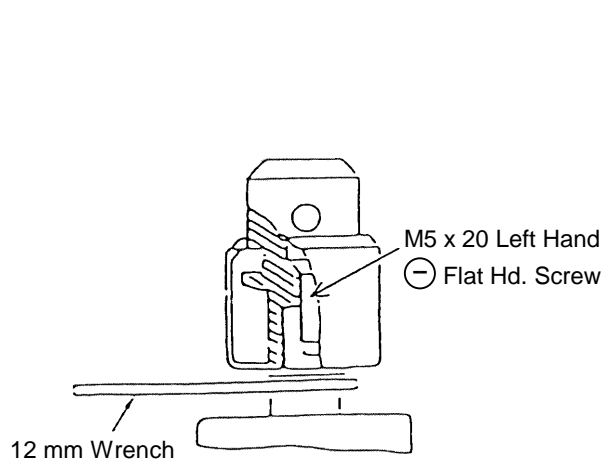
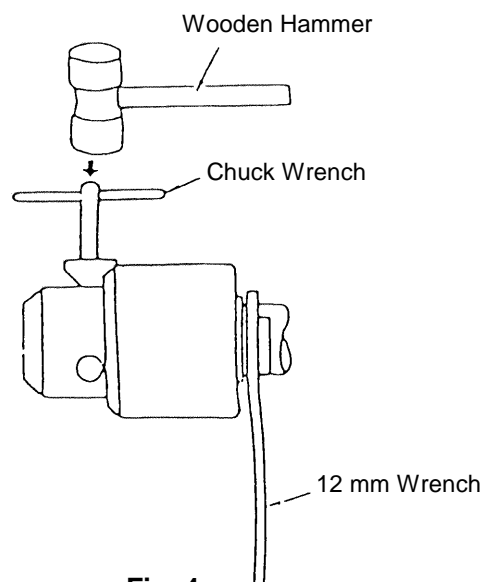

Fig. 3
Fig. 4
(5) Disassembly of the Drill Chuck ② (See Fig. 3 and Fig. 4) :
When disassembling the Drill Chuck ② from the Spindle ③, first fully open the three jaws of the Drill Chuck ②. Next, apply a 12 mm Wrench to the flat surfaces on the Spindle ③ to hold it steady, and loosen the M5 x 20 ① Flat Hd. Screw (Left Hand Threaded) ① by turning it clockwise with a minus screwdriver (See Fig. 3).
Then, after removing the M5 x 20 ① Flat Hd. Screw ①, insert the Chuck Wrench ⑰ or an appropriate 6 mm dia. steel rod into one of the three holes of Drill Chuck ②, and tap it lightly with a wooden hammer to loosen and remove the Drill Chuck from the Spindle ③ (See Fig. 4).